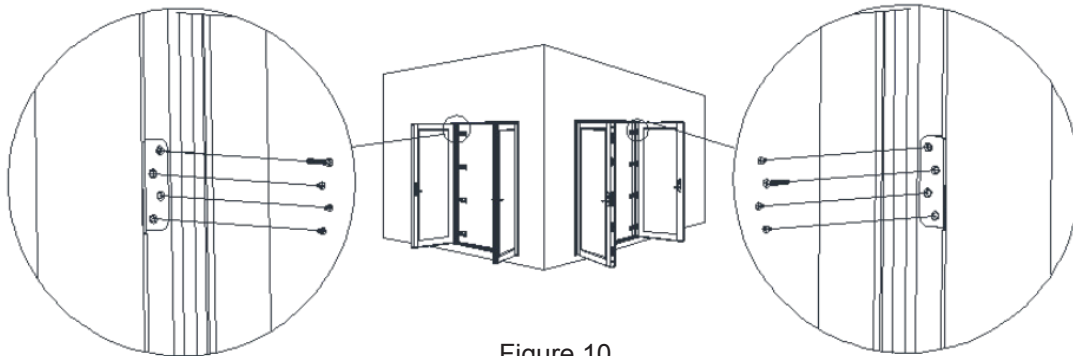

Figure 10
16. If attaching the panel to a substrate, use one long hinge assembly screw (Item 17). See Figure 10 for proper screw placement on hinges.
17. If attaching the panel to a mullion, use one hinge mullion assembly screw (Item 16). See Figure 10 for proper screw placement on hinges.